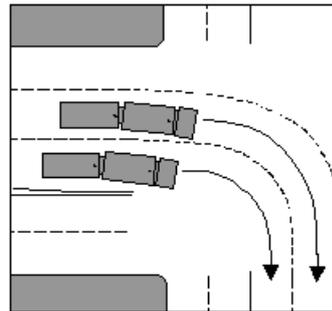

Fig 5
- 33.1.2 turn only in the direction of the marked arrows and enter the corresponding lane of the other road (Fig. 5).
33.2 When you are operating on a laned road and turning lanes are provided as an extension of lane lines, you must keep the B-Double in the turning lane while you are turning (Fig. 5).